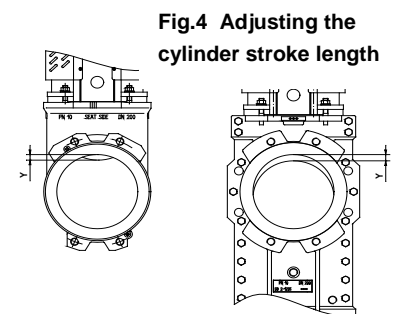

Fig.4 Adjusting the cylinder stroke length
1. Open the knife gate valve by gently operating the cylinder. The piston rod (25) must be in its top position in the cylinder. In this position, the gate should not have left the valve bore completely.
2. Measure the distance Y (see Figure 4) between the edges of the retainer ring in the valve body and the lowest part of the gate.
4. Connect the gate to the piston rod, close the valve (100%) smoothly and re-open the cylinder to the full OPEN cylinder position. Check the overlap Y (see Figure 4).